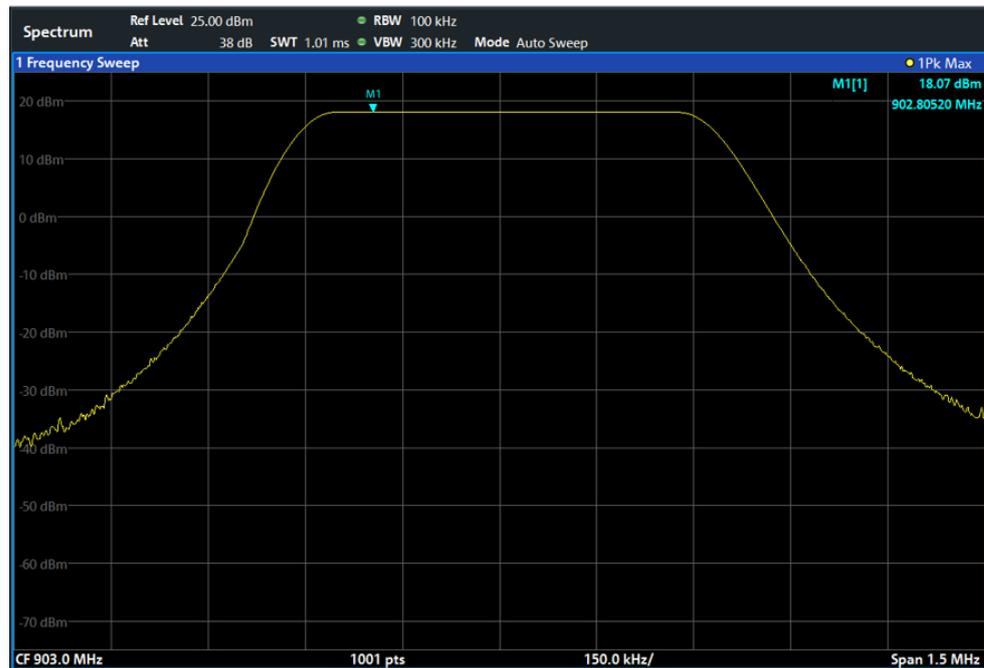

Figure 2-11: Measurement of maximum radiated power as reference value with $f_{TX} = 903$ MHz
8. Press the *Mkr* key, select *Peak* and note down the marker value as the reference value Ref_{low} (Figure 2-11).